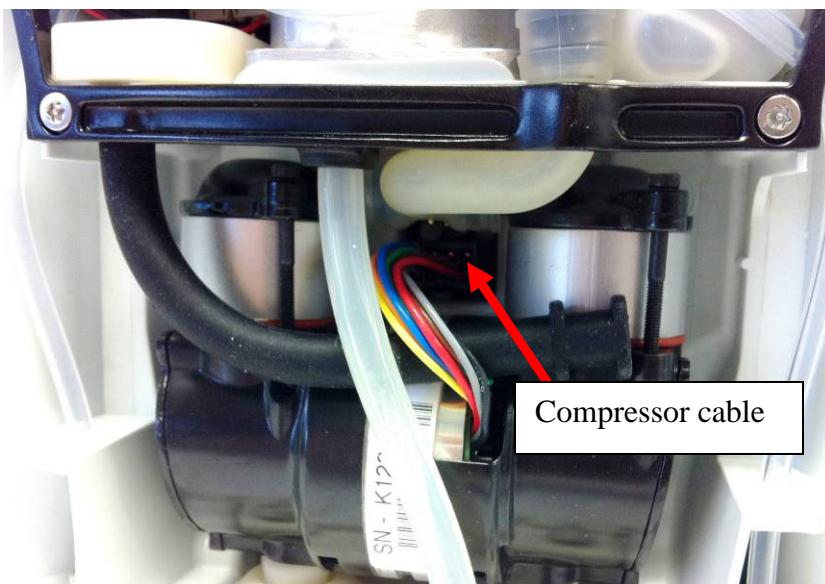

Figure 9: Detach compressor cable from motherboard
1. Locate the compressor cable. Detach the compressor cable from the motherboard using long pliers to press down on the release clip while pulling the connector housing (Figure 9). *Do not pull on the compressor wires.*
3. Plug the compressor cable back into the motherboard (Figure 9).